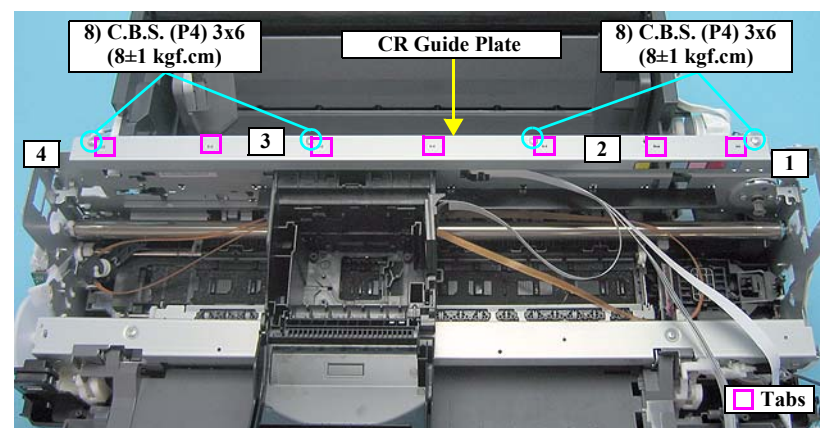

Figure 4-66. Removing the CR Guide Plate
- Align the positioning holes of the CR Guide Plate with the seven tabs on the Main Frame. See Figure 4-66.
- Tighten the screws in the order shown in Figure 4-66.